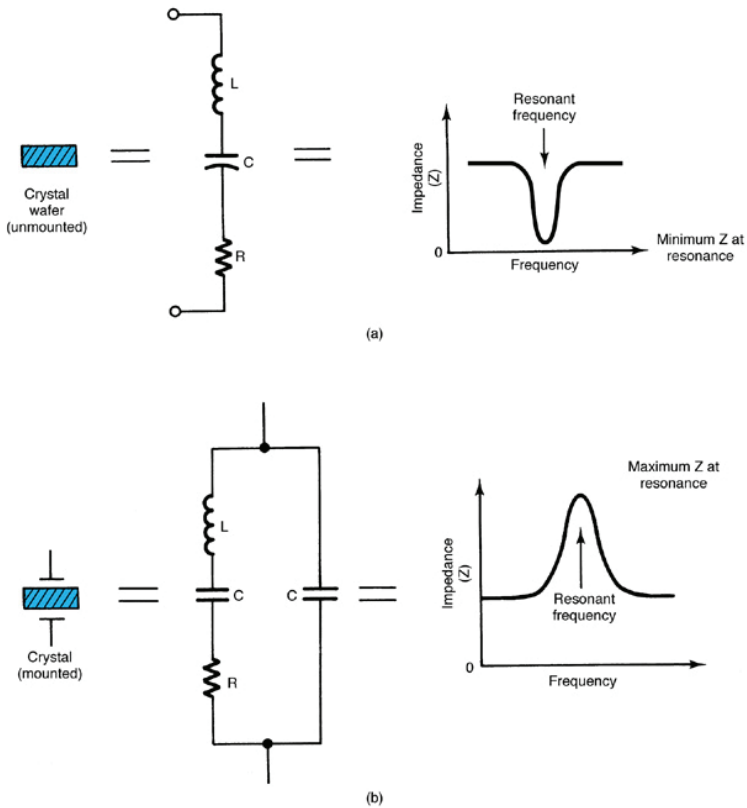

Figure 20.11 CityplaceCrystal equivalent circuits. (a) Series resonant. (b) Parallel resonant.
Refer to the Clapp oscillator circuit shown in **Figure 20.11**, which has $L_1 = 5$ mH, $C_1 = 0.02 \mu\text{F}$, $C_2 = 0.22 \mu\text{F}$, and $C_3 = 200$ pF. Determine the combined capacitance and the frequency of oscillation.
Refer to the Clapp oscillator circuit shown in **Figure 20.11**, which has $L_1 = 5$ mH, $C_1 = 0.07 \mu\text{F}$, $C_2 = 0.33 \mu\text{F}$, and $C_3 = 150$ pF. Determine the combined capacitance and the frequency of oscillation.
A crystal by itself behaves like a series-resonant circuit (see **Figure 20.11**). It has inductance (L), capacitance (C), and resistance (R). An
equivalent circuit is shown in **Figure 20.11(a)**. **Inductance** is determined by the mass of the crystal. **Capacitance** deals with its ability to change mechanically. **Resistance** corresponds to the electrical equivalent of mechanical friction. The series-resonant equivalent circuit changes a great deal when the crystal is placed in a holder.
Capacitance due to the metal support plates is added in parallel with the crystal equivalent circuit. **Figure 20.11(b)** shows the equivalent circuit of a crystal placed in a holder. In a sense, a crystal can have either a series-resonant or a parallel-resonant characteristic